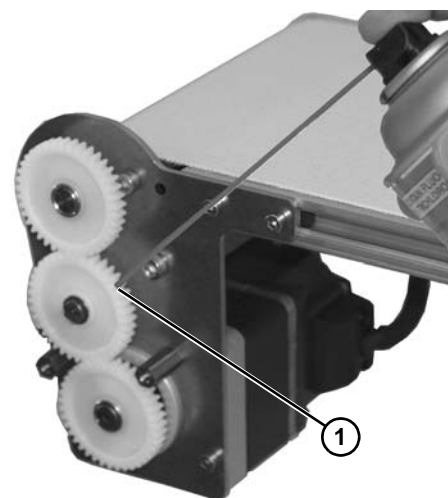

Figure 7
7. Apply a small amount of food grade grease to the teeth of the middle gear (**Figure 7, item 1**).